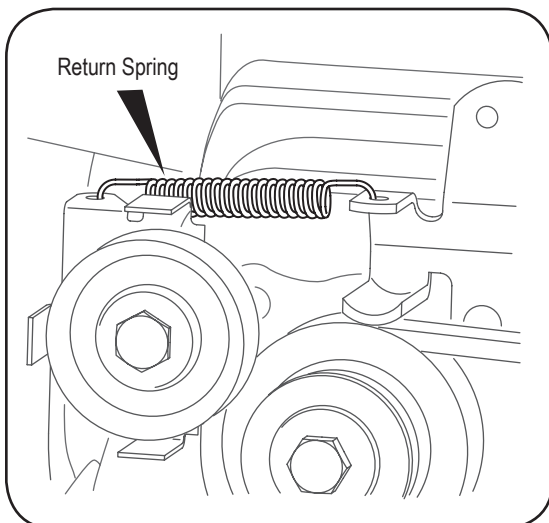

Figure 5-3: Return spring removal.
2. Remove the return spring. See Figure 5-3.